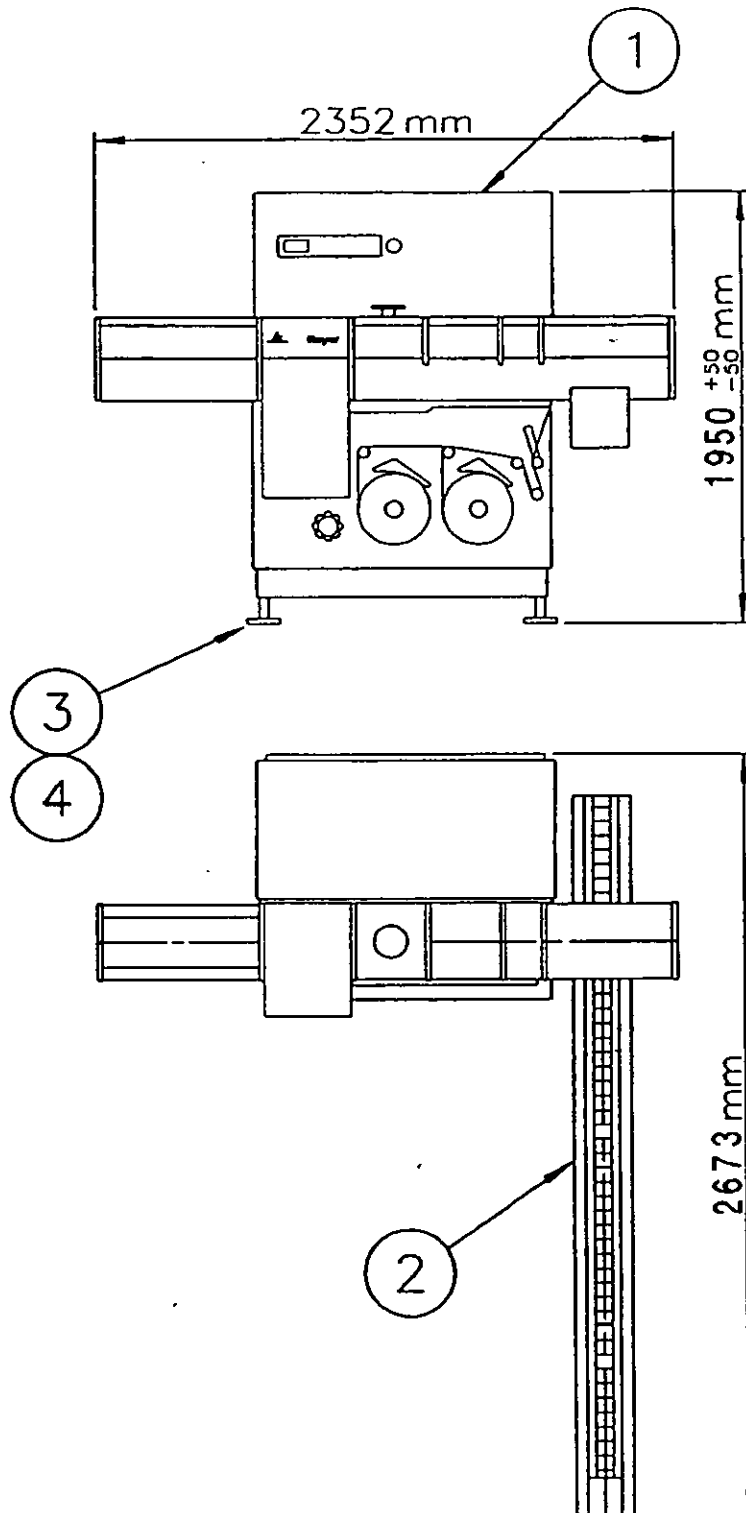

Fig. 1
See Fig. 1 before starting the lifting operation :
1. Insert the lifting legs under the machine as indicated by the arrow a in Fig. 1.
See Fig 1. Pos.3.
See Fig. 1. Pos 4.
See Fig. 1